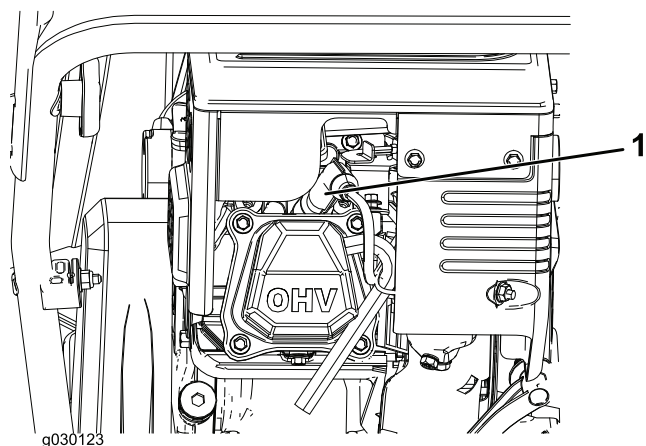

Figure 24
1. Remove the boot (Figure 24).